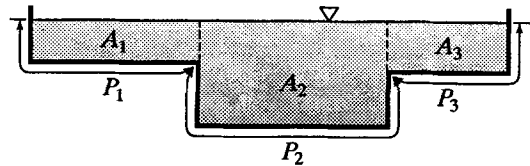

Figure 10.5
10.3.10 Refer to Fig. 10.5. Suppose the widths of A_1 , A_2 , and A_3 are 25, 8, and 45 m and the total depths are 0.4, 2.8, and 1.1 m. Compute the flow rate if $S_0 = 0.0018$, $n_1 = n_3 = 0.035$, and $n_2 = 0.022$.